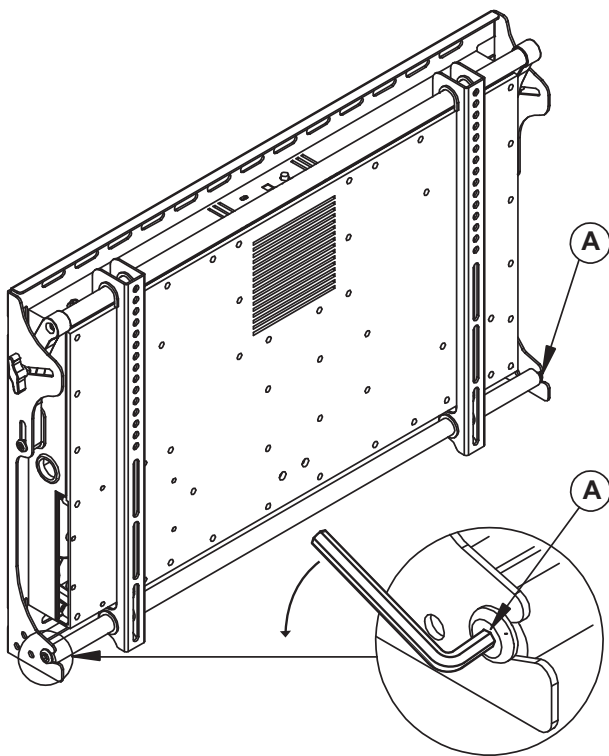
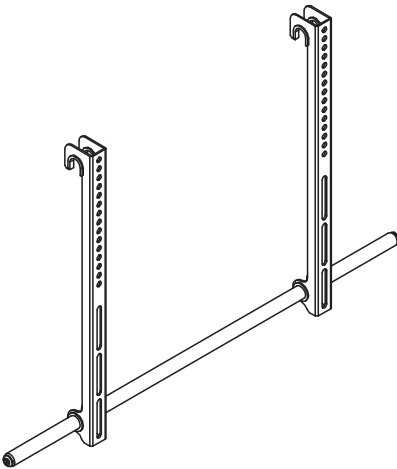
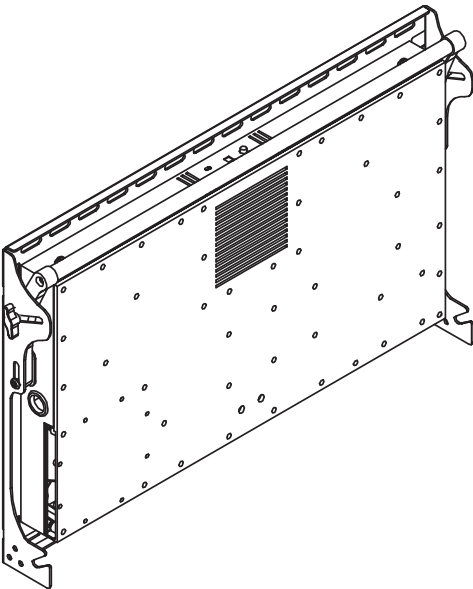

Figure 1 - Separate the TV Bracket and Wall Plate
Figure 2 - TV Bracket Connection
Figure 3 - Sound System Wall Plate
Use the supplied Allen wrench to loosen the socket screws (A) on each side of the lower pole (Figure 1). You can then separate the unit into two parts: the TV bracket connection (Figure 2) and the system wall plate (Figure 3).